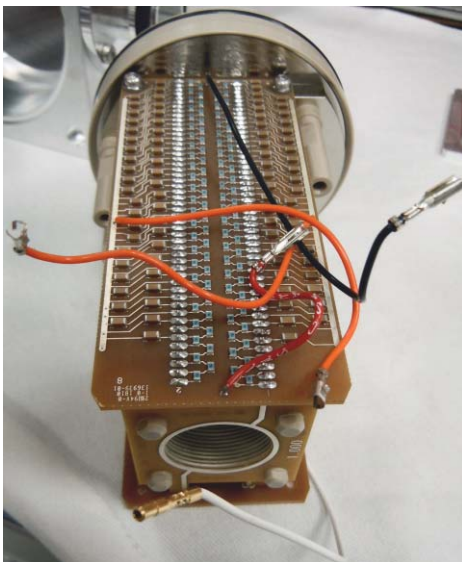

Figure 67 High Pressure Ion Funnel on top of a clean cloth.
- 1 Put the High Pressure Ion Funnel on the table and on top of a clean cloth. See Figure 67.